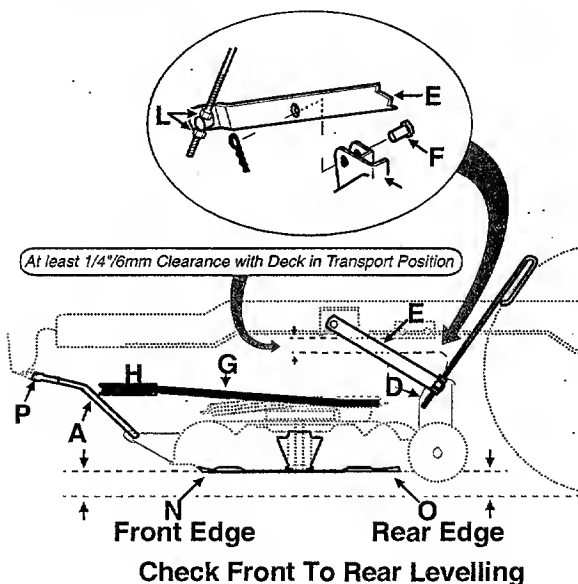
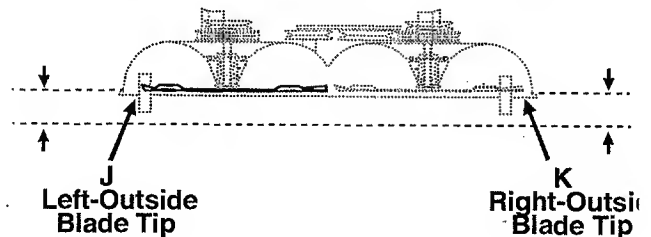

Figure 3
Figure 4
4. Set the clearance between the lift bracket (D, Figure 3) and the frame/frame stop to 1/4" or 6mm. Adjust the position of nuts (L) to set the clearance.
- Rotate the left blade so it is aligned side-to-side with the tractor (Fig. 4). Measure the distance from the outside blade tip (J) to the ground. Rotate the right blade so it is aligned side-to-side with the tractor. Measure the distance from the outside blade tip (K) to the ground. These distances should be equal to each other and to the measurements taken in step 4.
- Adjust the position of the nuts (L, Fig. 4) to raise or lower each lift link until the unit is level. readjust the lift rods (A) needed.
- When level, tighten the nuts (L) firmly against the swivel block.
- Turn the blades so that one is aligned front to rear with the tractor. Measure the distance from the front edge of the blade (N, Fig. 3) to the ground. Measure the distance from the rear edge of the blade (O) to the ground. Both distances should be equal.
- To level, adjust the length of the front lift lift rods (A, Fig. 3) by turning the rod end (P) on each front lift rod, as required.